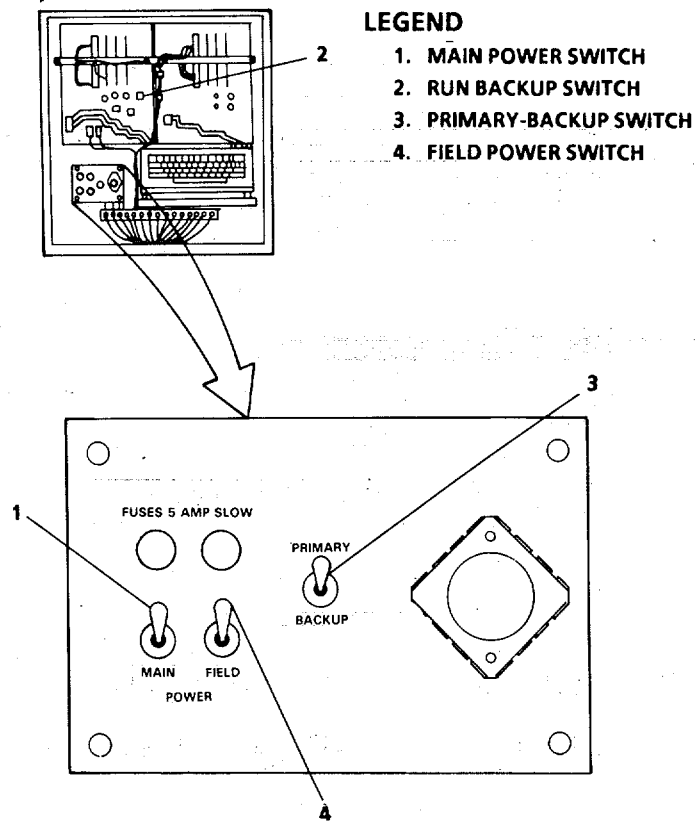

FIGURE 2-97. Engine Efficiency Panel
- (12) In Engine Room Operating Station, open Engine Efficiency Panel (FIGURE 2-97), set MAIN POWER switch (1) to UP position, set FIELD POWER switch (4) to DOWN position, and PRIMARY-BACKUP switch (3) to PRIMARY position.
- (13) Set FIELD POWER switch (4) to UP position.
- (14) On printed circuit board (FIGURE 2-97), set RUN-BACKUP switch (2) to BACKUP position.